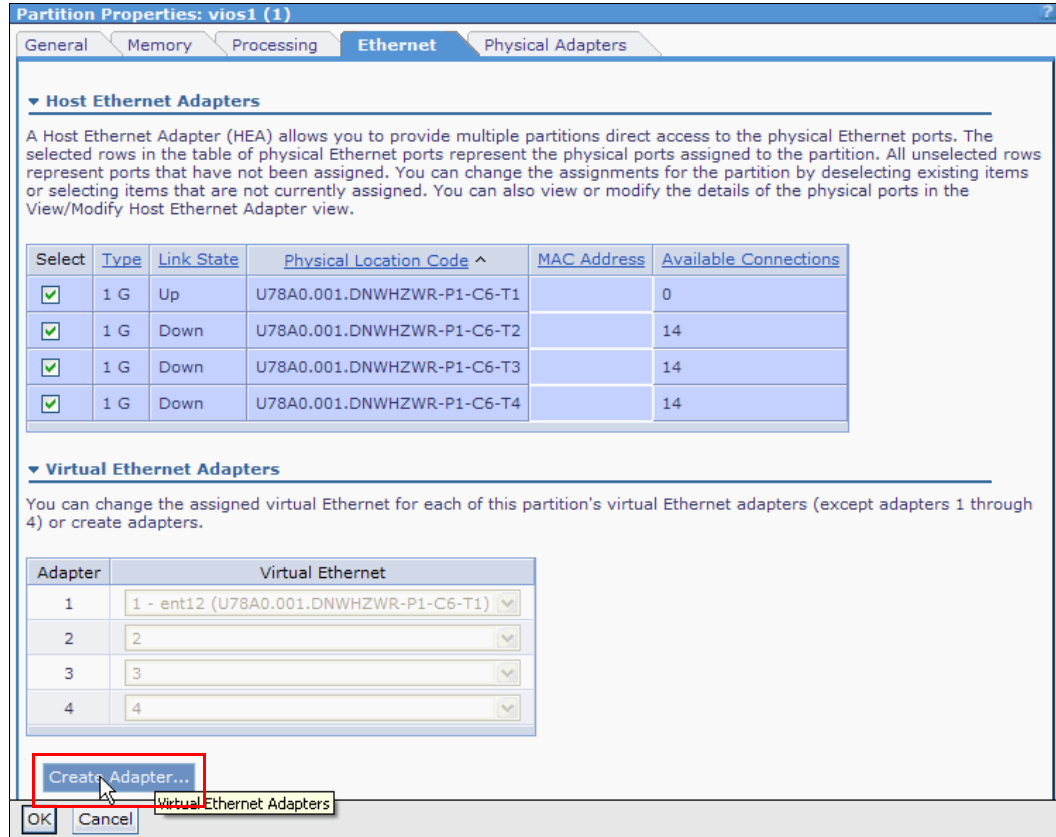

Figure 4-66 Dynamic LPAR for a virtual adapter
1. In the partition properties of the IVM, click the **Ethernet** tab. Click **Create Adapter**, as shown in Figure 4-66.